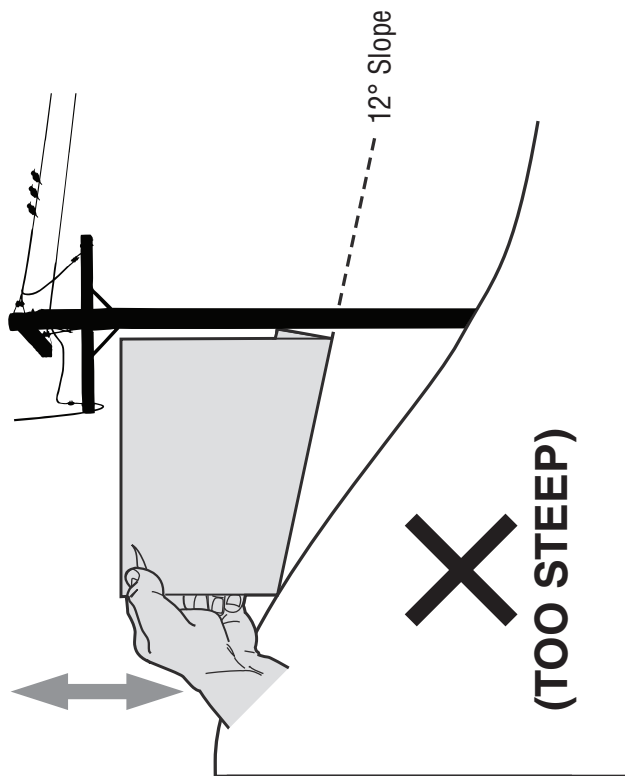
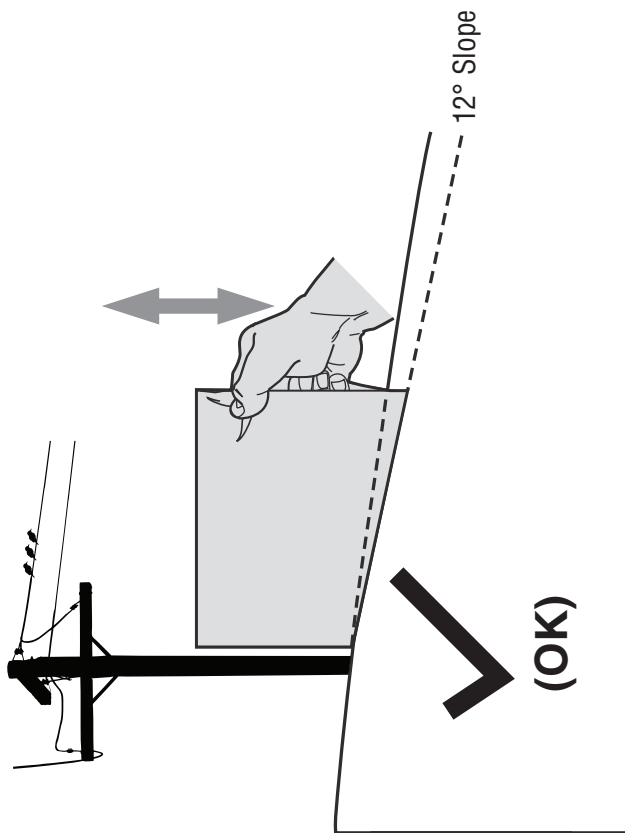

Figure 2
Figure 1
3. Align either side of the slope gauge with the object (See Figure 1 and Figure 2).
4. Adjust gauge up or down until the left corner touches the slope (See Figure 1 and Figure 2).
5. If there is a gap below the gauge, the slope is too steep for safe operation (See Figure 2 above).